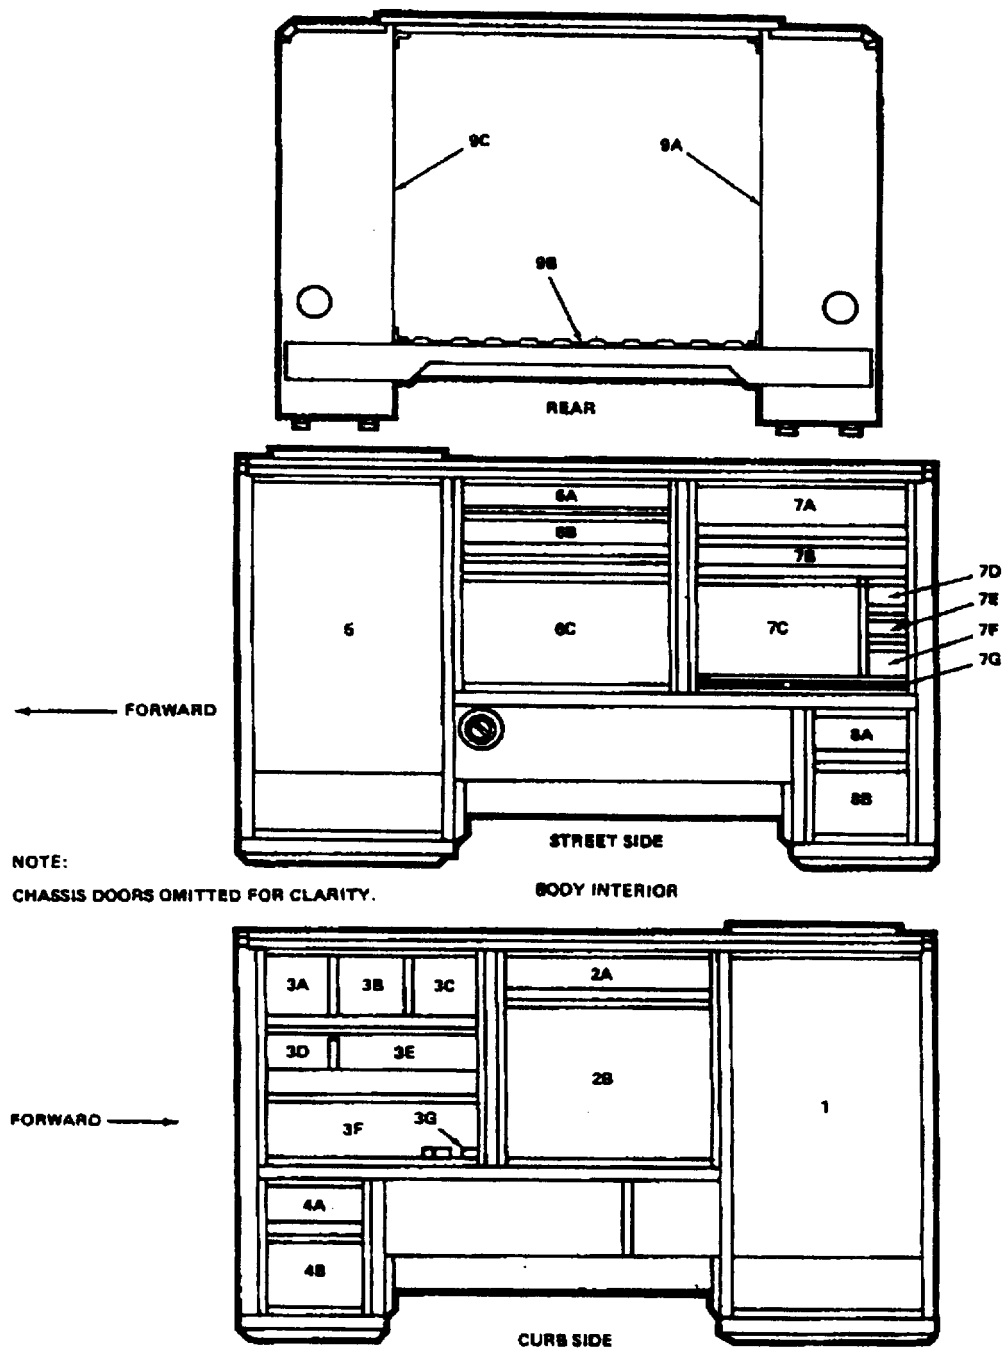

Figure F-1. Shop Equipment Compartment Identification and Location.
a. **General.** Depending on the particular vehicle configuration, the compartments of the body on the contact maintenance vehicle (fig. F-1) may be loaded with various pieces of equipment for the performance of its mission. This appendix provides a listing of the equipment for the Type II (Engineer) and Type III (Ordnance) vehicle configurations and the exact location of each piece of equipment on-board the vehicle.
b. **Shop Type.** There are four types of contact maintenance vehicle shop sets: Type I, Type II, and Type III, and Explosive Ordnance Disposal (EOD). The Type I shop is empty of any tools and equipment when issued to Signal units. The Type II shop set (Engineer) equipment and location is shown in table F-1. The Type III shop set (Ordnance) equipment and location is shown in table F-2. The EOD shop set is empty of tools and equipment when it is issued to field EOD units. The compartment number column in tables F-1 and F-2 refer to those locations shown in figure F-1.